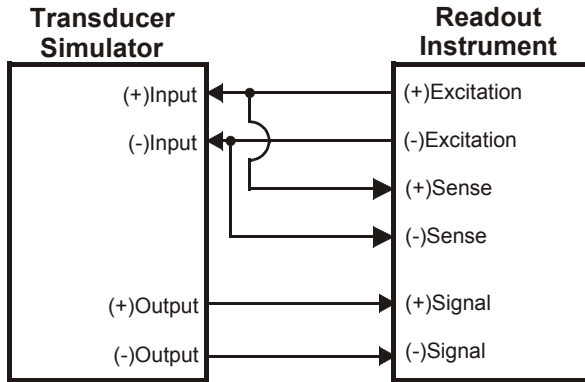

Figure 2-2: Wiring to Readout Instrument w/Excitation Sense Wires
2. Wire the voltmeter to the transducer simulator according to Figure 2-2:“Wiring to Readout Instrument w/Excitation Sense Wires” on page 14. All connecting wires should be of a similar length. Connect the voltmeter’s “ratio reference sense” terminals to the transducer simulator directly at the (+)Input and (-)Input terminals.